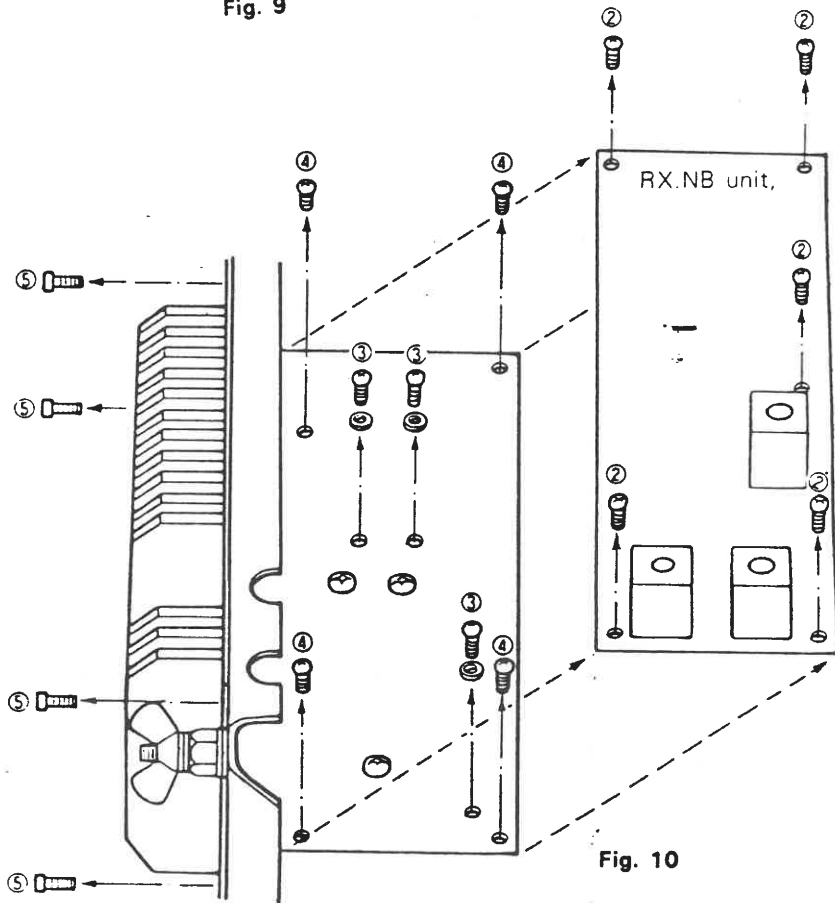

Fig. 10
- 2) Remove 5 screws on RX-NB.--Fig 10. ②
- 3) Remove 3 screws.-----Fig 10. ③
- 4) Remove 4 screws.-----Fig 10. ④
- 5) Remove 5 screws.-----Fig 10. ⑤
- 6) Remove FINAL UNIT-----Fig 10